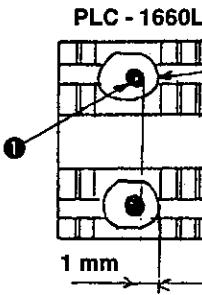

Fig. 9
<ul style="list-style-type: none"> ○ PC-1610 / 1610-7 <ol style="list-style-type: none"> 1) Set the stitch dial to the minimum value. 2) Turn the handwheel to bring needle bar ③ in the lowest point. 3) Loosen setscrew ⑤ in the rock shaft crank. 4) Turn the rock shaft crank so that the needle comes in the center of the hole in the feed dog. After the adjustment, tighten the setscrew. ○ PLC-1660 / 1660-7 <ol style="list-style-type: none"> 1) Set the stitch dial to the minimum value. 2) Turn the handwheel to bring the needle bar in the lowest point. 3) Loosen setscrew ④ in the needle bar connection. 4) Turn needle bar ③ so that the needle comes in the center of the hole in the feed dog. After the adjustment, tighten setscrew ④. 5) If the needle is longitudinally shifted in the hole in the feed dog, loosen setscrew ⑤ in the rock shaft crank, and adjust by turning the rock shaft crank. Then, tighten setscrew ⑤. <p>(Caution) 1. Do not change the height of the needle bar. 2. Do not loosen needle clamp ②.</p> ○ PLC-1660L <ol style="list-style-type: none"> 1) Set the stitch dial to the minimum value. 2) Turn the handwheel to bring the needle bar in the lowest point. 3) Loosen setscrew ④ in the needle bar connection. 4) Turn the needle bar so that the needle comes in the center of the hole in the feed dog. After the adjustment, tighten the setscrew. 5) To adjust the longitudinal position (Fig. 9) of the needle to the hole in the feed dog, loosen setscrew ⑤ in the rock shaft crank, and turn the rock shaft crank. After the adjustment, tighten the setscrew. <p>(Caution) 1. Do not change the height of the needle bar. 2. Do not loosen the needle clamp.</p> ○ PLC-1665 <ol style="list-style-type: none"> 1) Set the stitch dial to the minimum value. 2) Turn the handwheel to bring the needle bar in the lowest point. 3) Loosen setscrews ⑧ and ⑨. 4) Turn the needle bar so that the needle comes in the center of the hole in the feed dog. After the adjustment, tighten the setscrews. 5) If the needle is longitudinally shifted in the hole in the feed dog, loosen setscrew ⑤ in the rock shaft crank and adjust by turning the rock shaft crank. Then, tighten the setscrew. <p>(Caution) 1. Turning range of needle clamp ② is the clearance between the width of long slit of the needle bar and screw ⑨.</p> ○ PLC-1690 <ol style="list-style-type: none"> 1) Set the stitch dial to the minimum value. 2) Turn the handwheel to bring the needle bar to the lowest point. 3) Loosen setscrew ⑤ in the rock shaft crank. 4) Turn the rock shaft crank so that needle ① comes in the center of the hole in the feed dog. After the adjustment, tighten setscrew ⑤ 	<ul style="list-style-type: none"> ○ Stitch skipping and thread breakage will result. ○ Loose stitches will result.